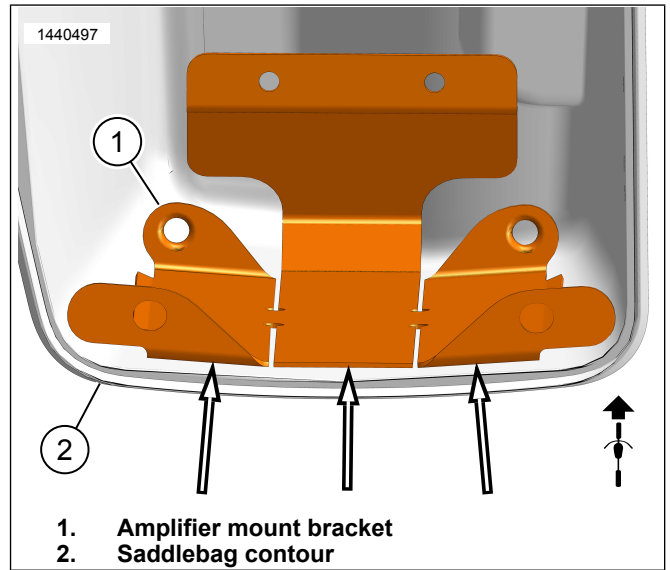

Figure 6. Saddlebag Contour
- b. See Figure 6. Use slits in the mounting bracket (1) to bend and conform to the saddlebag contour (2) without rocking. This will ensure better contact and adhesion with the tape. Do not peel tape at this time.